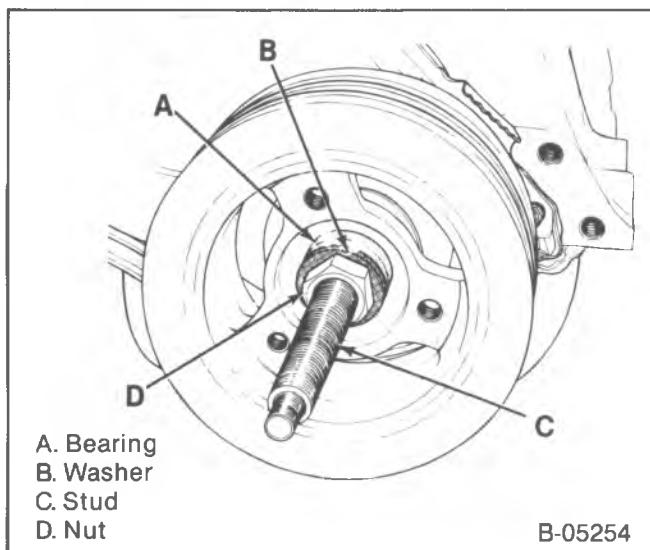

Figure 53—Installing the Torsional Damper
1. Key (163).
2. Stud (item C, figure 53) to the crankshaft (154). Thread the stud fully into the tapped end of the crankshaft.
3. Torsional damper (162) over the end of the stud. Align the keyway in the vibration damper shaft with the crankshaft key.
4. Bearing, washer, and nut (figure 53).
5. Bolt (160) and washer (161).
- Bolt (160) to 80 N·m (60 ft. lbs.).